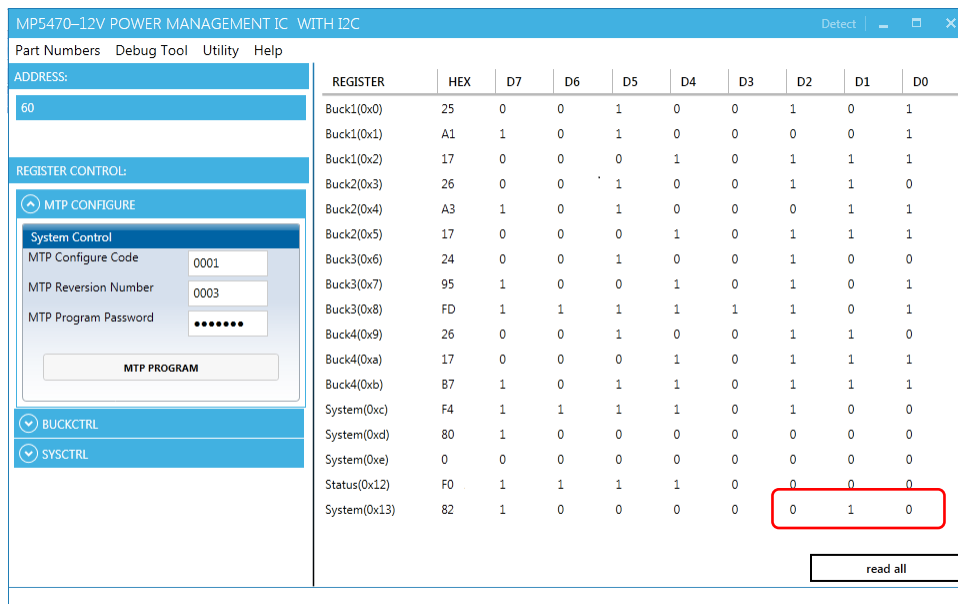

Figure 17: Burn MTP Action Success
- Click the MTP Program button. The GUI will be as shown in Figure 17. Click the Read All button. The 0x13 register value changing from 0x81H to 0x82H indicates a successful MTP.